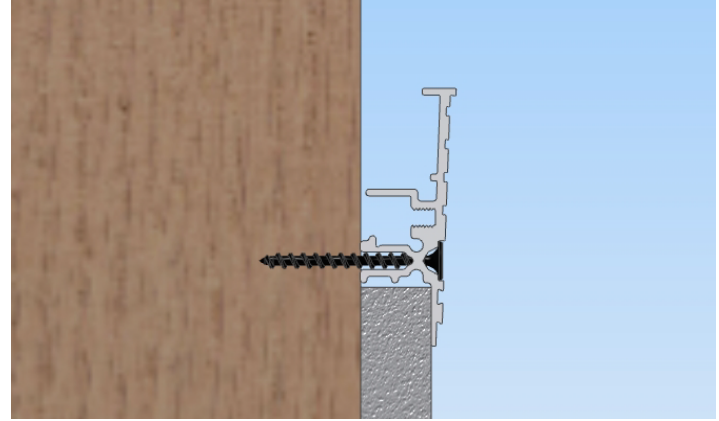

figure 4 - Drill holes through the mounting groove
8. Drill 5/32" diameter holes through the mounting groove, in line with the marking locations. *fig. 4*
10. Secure fixture to wall with drywall screws using the holes in the frame. *fig. 4*